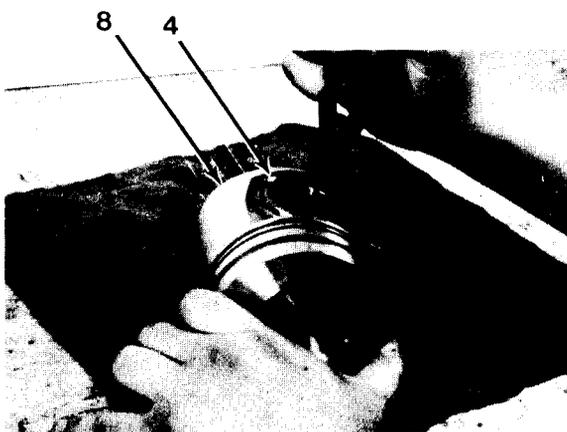
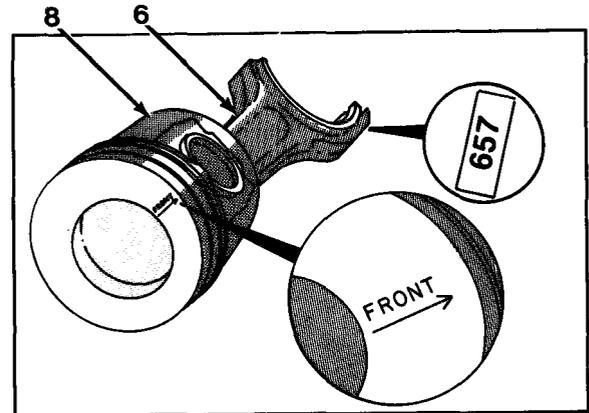

Figure 6-17
Figure 6-18
1. Using snap ring pliers, install one of two retaining rings (4) on side of piston (8, Figure 6-17) marked FRONT.
2. Lubricate piston (8) pin bore with engine oil.
3. Install piston (8) on connecting rod (6, Figure 6-18), positioning FRONT marking on piston (8) with numbers on connecting rod (6).